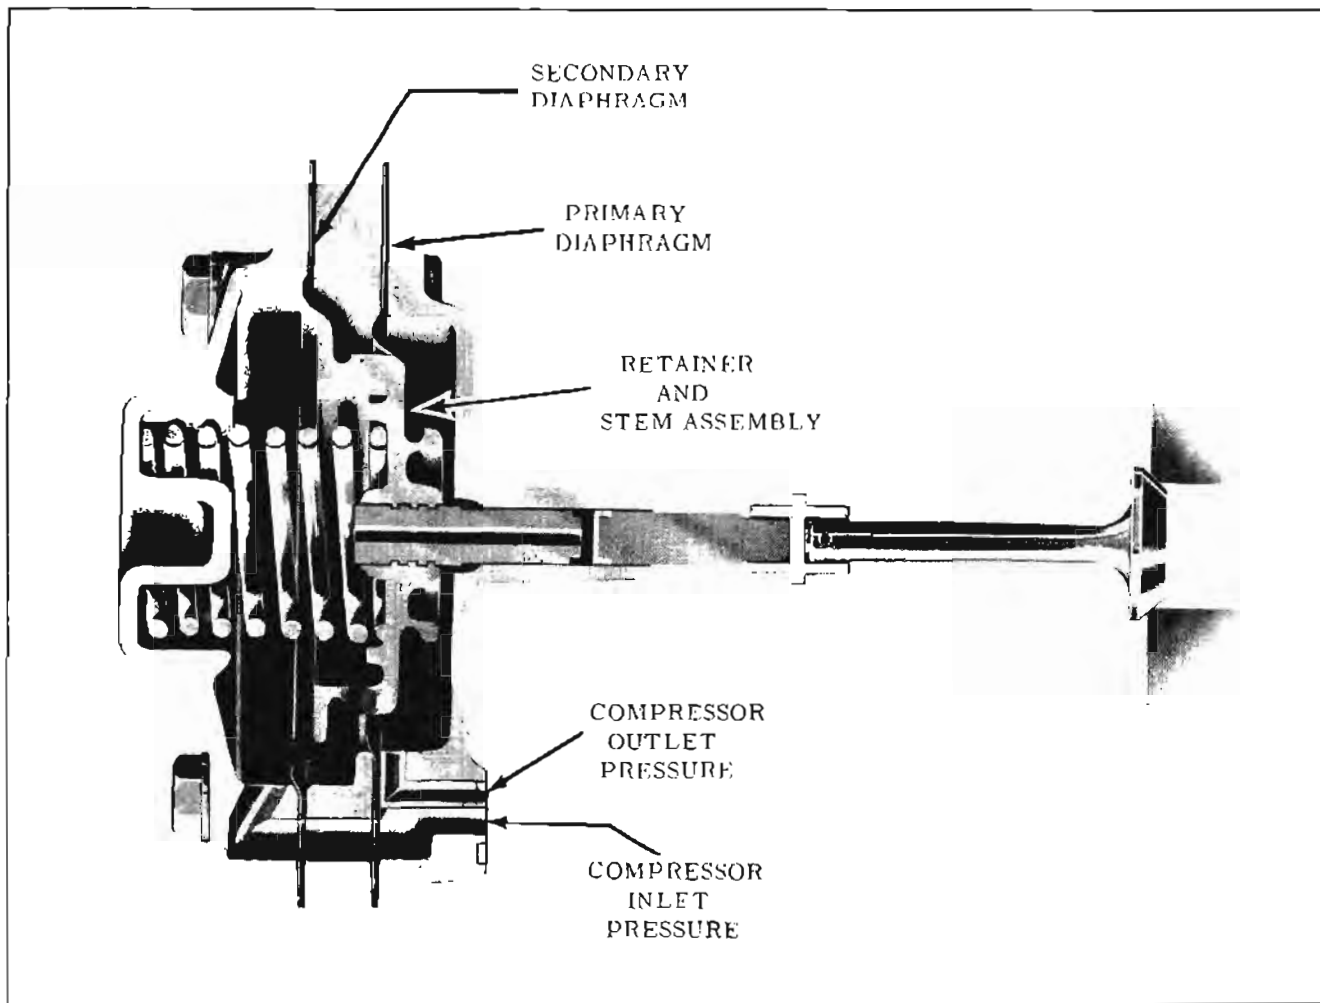

Fig. 8-163 Controller Assembly
### OPERATION (Fig. 8-163)
4. Apply air, 15 to 20 psi to the pressure port first and then the vacuum port to free diaphragms. (Fig. 8-163)
5. Remove the two (2) bolts while holding cover and spring compressed, then remove cover and spring.
1. Install diaphragms with raised ring toward retainer. (Fig. 8-163)